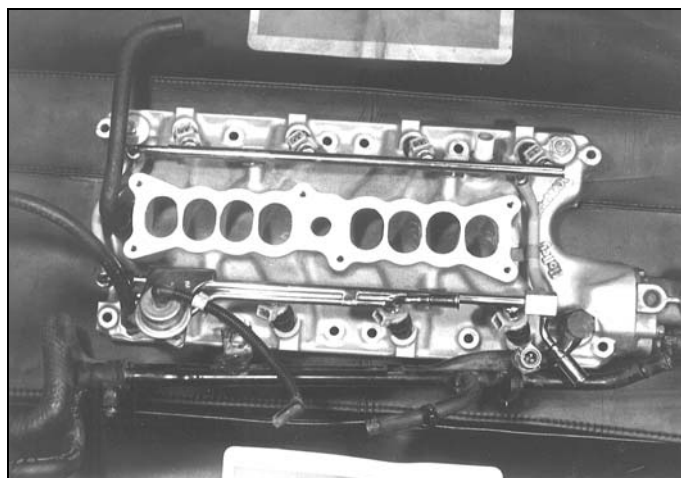

Figure 19
11. Install the water lines, sensors, fuel rails, and plugs that were removed from the old manifold. See Figure 19.